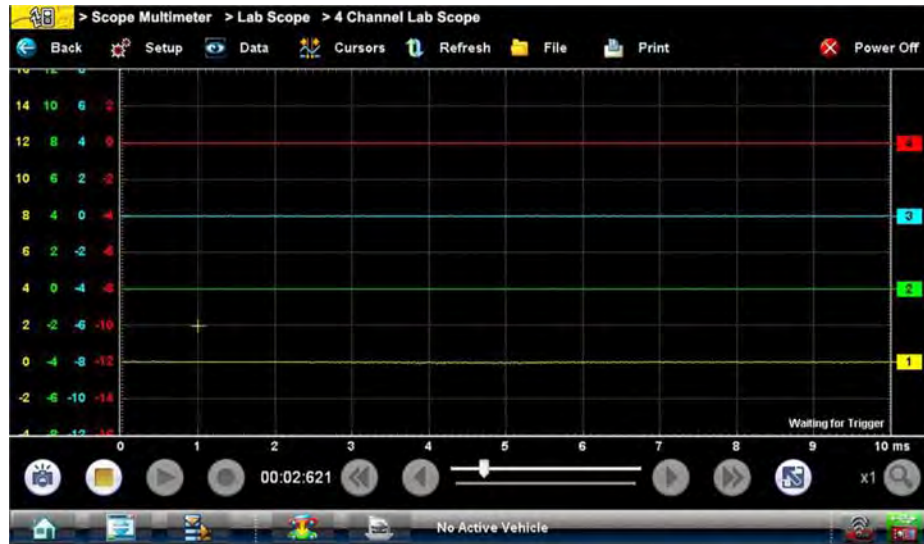

Figure 8-23 Sample grid selected
- **Show Grid**—switches grid lines on the screen off and on (Figure 8-23).
- **1 window**—shows all traces on the same screen (Figure 8-23).